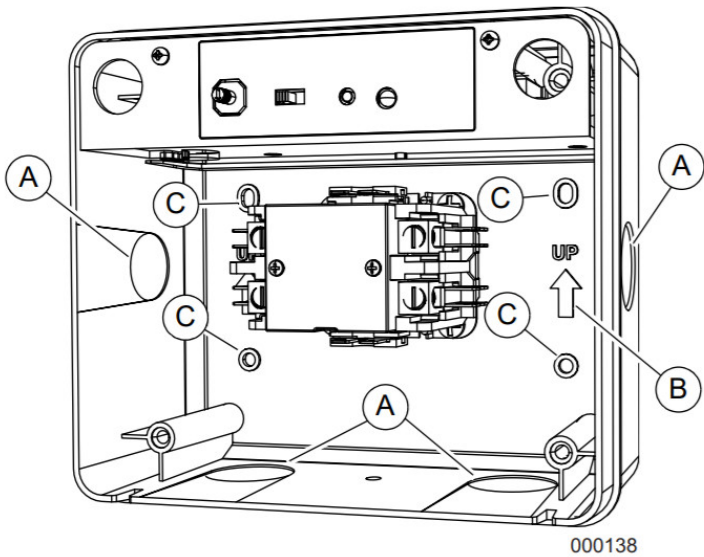

Figure 3-1. Knockouts and UP Arrows
- See Figure 3-1. Use a flat head screwdriver to remove appropriate knockouts (A) from the module enclosure for wiring.